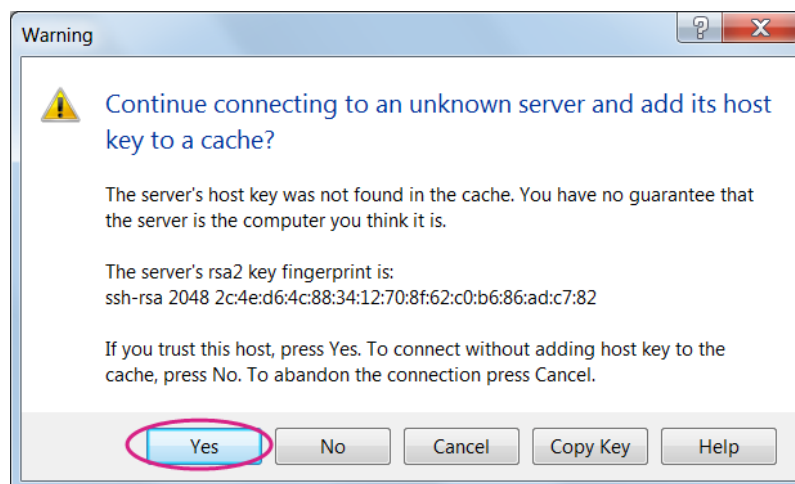

Figure 33 SCP Security Warning
- To use GUI, start WinSCP and click **Yes** when you see a warning window as shown in Figure 33.